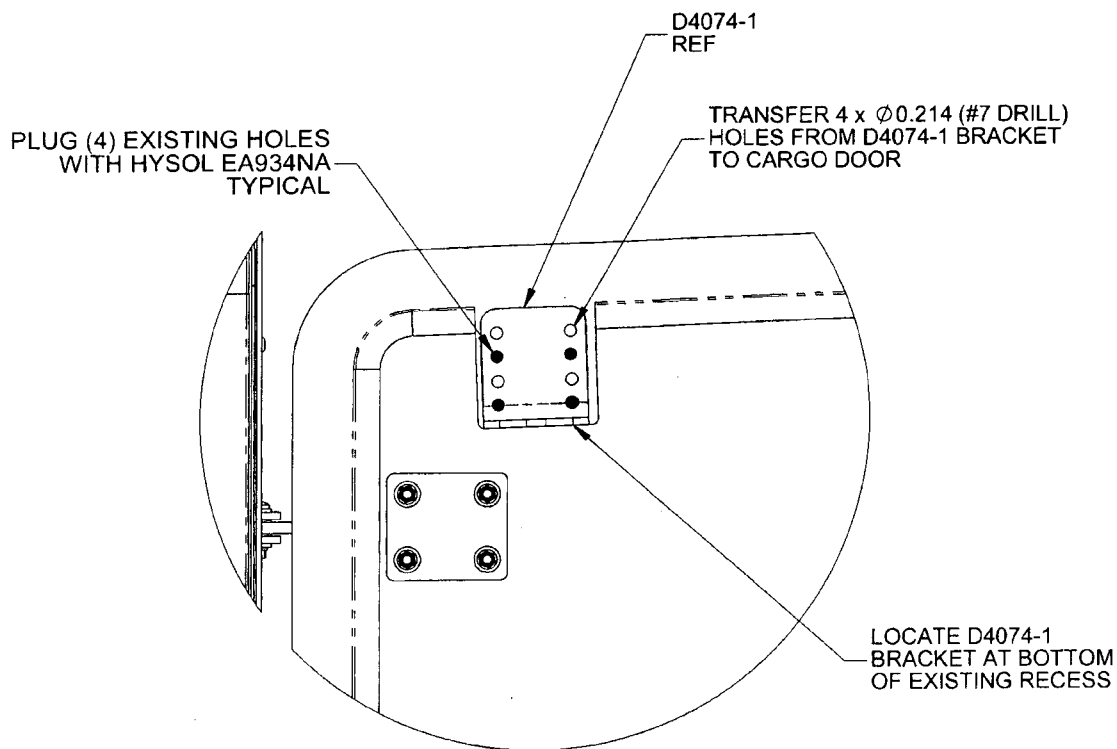

FIGURE 4 - D4074-1 BRACKET INSTALLATION
- 3.2.2.11 Install D4074-1/-5 Bracket/Backing Plate using the existing holes in the cargo door as shown in Figure 5b Detail E. Plug holes at center of the door used for original gas springs using existing hardware. Torque screws per Table 1. On aircraft equipped with 3P5230A01033 (LH) and 3P5230A01133 (RH) Cargo Door, plug existing holes with Hysol EA934NA. Locate D4074-1 bracket at bottom of existing recess and transfer hole locations to door as shown in Figure 4 of this DSI. Install D4074-1/-5 brackets using hardware shown in Figure 5b Detail E of IIN-D139-799 Rev. F.